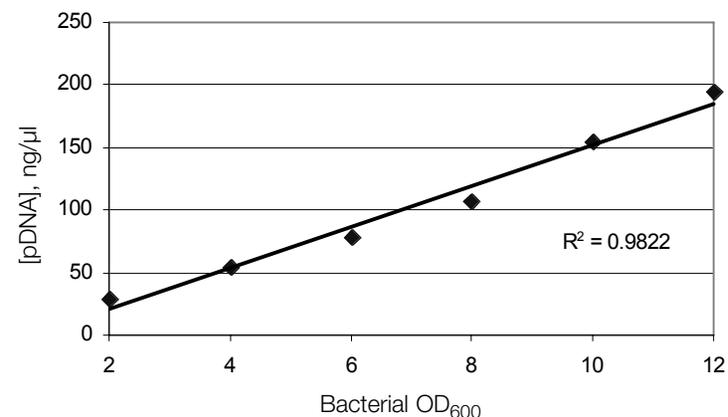

Fig. 2. OD vs. plasmid concentrations
- Each well of the Aurum plasmid 96 kit can process up to 12 OD₆₀₀ of bacterial culture. Optimized concentrations of purified plasmid will generally occur with most high-copy number constructs, bacterial hosts and media types when 6–10 OD₆₀₀ of bacterial culture are processed per well, although smaller amounts of culture may also be processed (Fig. 2).
Figure 2. Relationship between OD₆₀₀ of bacteria processed per well and concentration of plasmid DNA obtained using the Aurum plasmid 96 kit. A linear trend is observed between bacterial amount used per well and plasmid DNA sample concentration. 2–12 OD₆₀₀ pGEM/DH5α in LBG were processed in each well. Plasmid DNA samples were eluted with 80 μl elution solution.